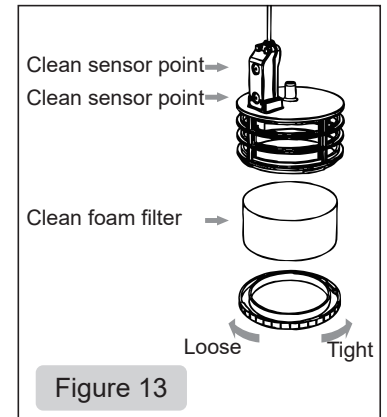

Figure 13
- 2) To ensure the system works reliably and robustly, check and clean the water level sensor and filter after a period of operation as shown in **Figure 13**.